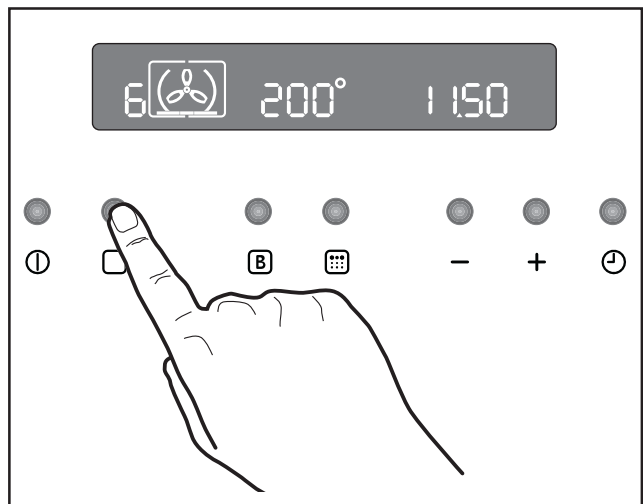

Fig. 6
2. Press button  to select the required oven function. Each time button  is pressed, a cooking symbol will appear in the display and the corresponding cooking function number will appear to the left of the currently selected cooking function symbol (Fig. 6).